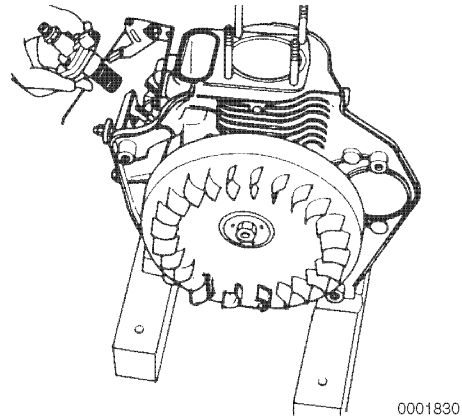

Figure 7-16
8. Remove the fuel injection pump (**Figure 7-16**).